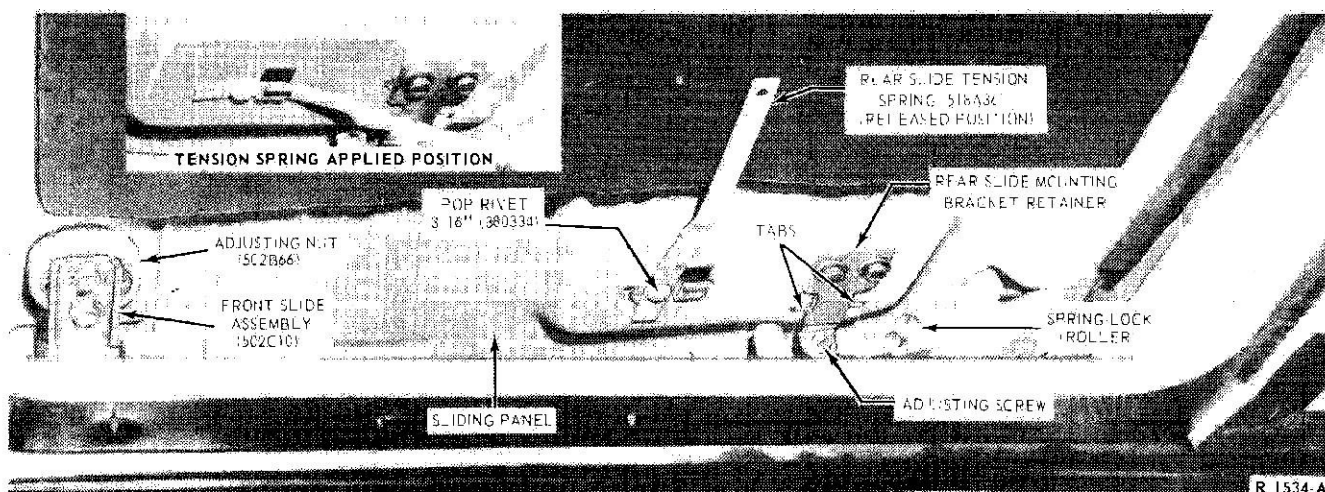

FIG. 4 Roof Sliding Panel Assembly (Right Side Shown)
3. Slide the trim panel to rear for stowage, and crank the sliding panel closed (Fig. 4).
4. Release the rear slide tension springs (left and right) by rotating them to the inboard position (Fig. 4).
5. Detach the sliding panel from both left and right front slide assemblies (2 screws each side, Fig. 4).
6. Detach the sliding panel from the two rear slide assemblies by removing each slide mounting bracket retainer from the tabs in the panel (2 screws, Figs. 4 and 5).
8. Before installing the sliding panel, be sure that the crank handle is rotated clockwise as far as it will go. Set the sliding panel in the roof panel opening and attach it to the four slide assemblies (right and left, front and rear), as shown in Figs. 4 and 5. Rotate the tension springs outboard and lock them into applied position.